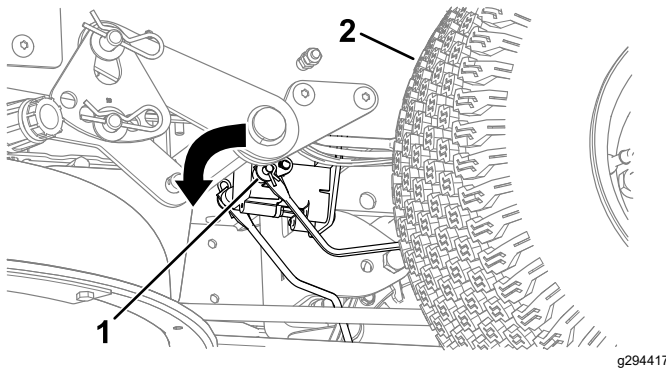

**Figure 52**
4. Locate the shaft on the electric brake where the brake link arms are connected (Figure 52).
5. Rotate the shaft forward to release the brake as shown in Figure 52.